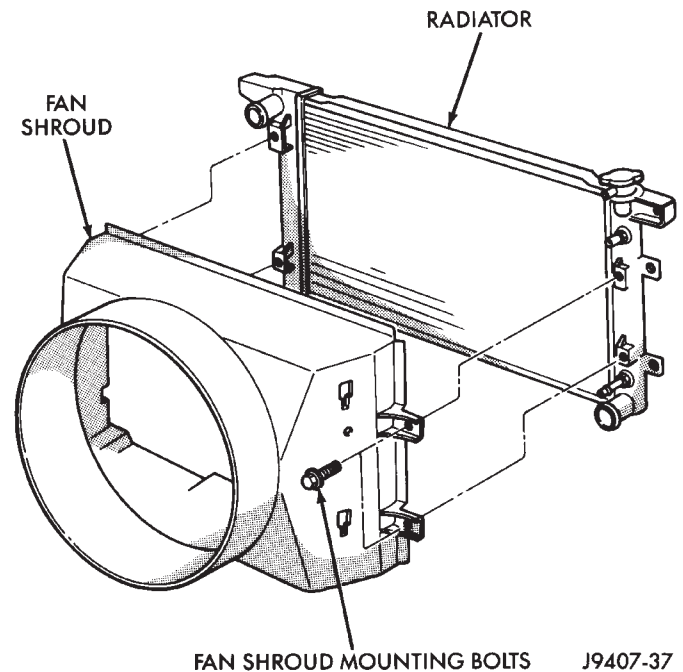
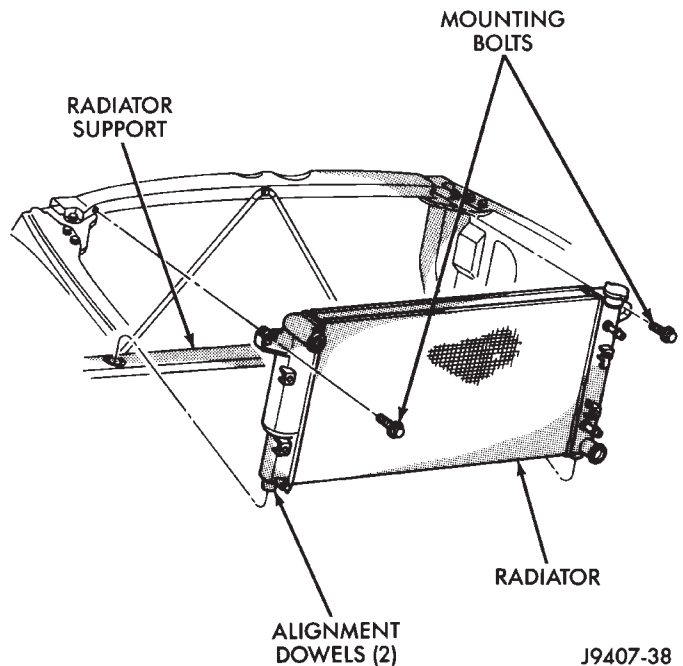

Fig. 31 Fan Shroud Mounting
Fig. 32 Radiator Mounting
(5) Disconnect electrical connectors and supply hose from windshield washer bottle and remove tank. Refer to Group 8K, Windshield Wiper and Washer Systems for procedures.
(6) Remove the two metal clips retaining the upper part of fan shroud to the top of radiator.
(7) Remove the four fan shroud mounting bolts (Fig. 31). Position shroud rearward over the fan blades towards engine.
(8) Disconnect the radiator lower hose and clamp from the radiator.
(9) Remove the two radiator upper mounting bolts (Fig. 32).
(10) Lift radiator straight up and out of engine compartment. The bottom of the radiator is equipped with two alignment dowels that fit into holes in the lower radiator support panel (Fig. 32). Rubber biscuits (insulators) are installed to these dowels. Take care not to damage cooling fins or tubes on the radiator and air conditioning condenser when removing.
(3) Lower the radiator into position while guiding the two alignment dowels into lower radiator support (Fig. 32).
(4) Install two upper radiator mounting bolts. Tighten bolts to 11 N·m (95 in. lbs.) torque.
(5) Connect the radiator lower hose and clamp.
(6) Position fan shroud to flanges on sides of radiator. Install fan shroud mounting bolts (Fig. 31). Tighten bolts to 6 N·m (50 in. lbs.) torque.